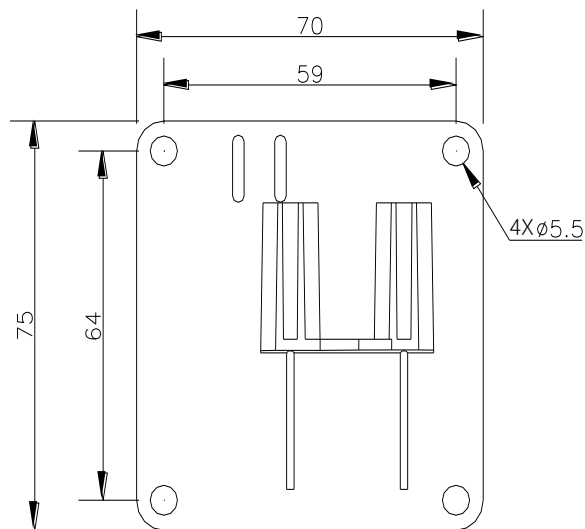

Figure 4.1a Bulkhead bracket Dimension
2. Fix the bulkhead bracket in a convenient location (Refer to Figure 4.1a)